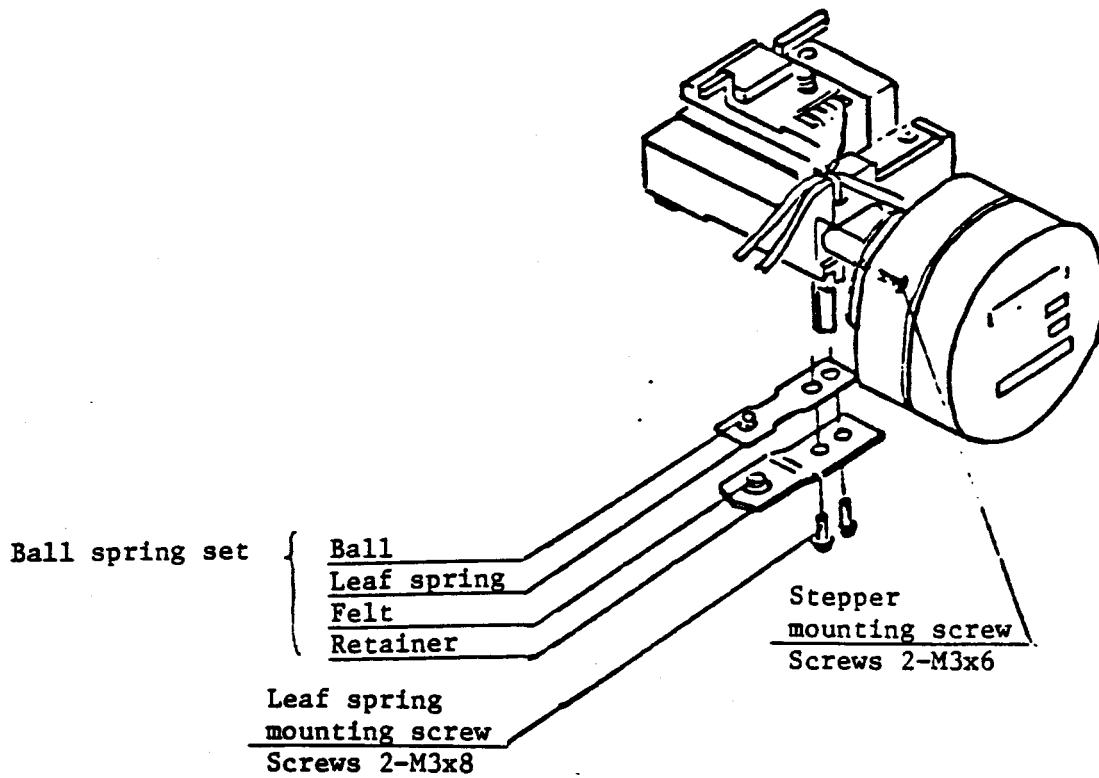
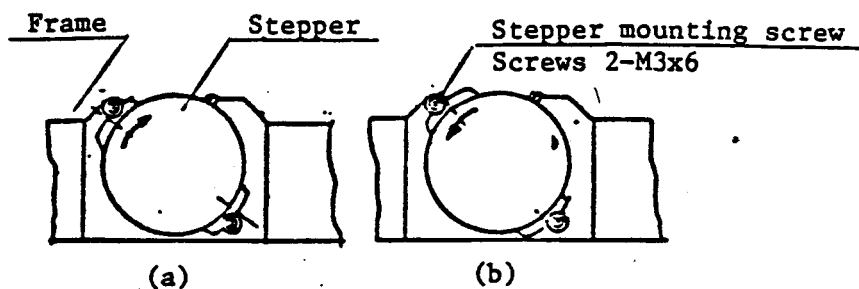

Fig. 4.14.2
Fig. 4.15.2
6. If TROO signal does not go low, move one step inward and turn the stepper clockwise until the positioning signal appears when the relative locations of stepper flange and stepper mounting screws are as in figure 4.15.2 (a). Move one step outward and turn the stepper counterclockwise until the positioning signal appears when as in figure 4.14.2 (b).